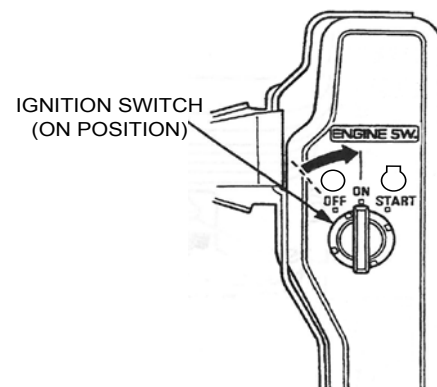

Figure 16. Ignition Switch (ON)
- Turn the ignition switch on the engine to the **ON** position (Figure 16).